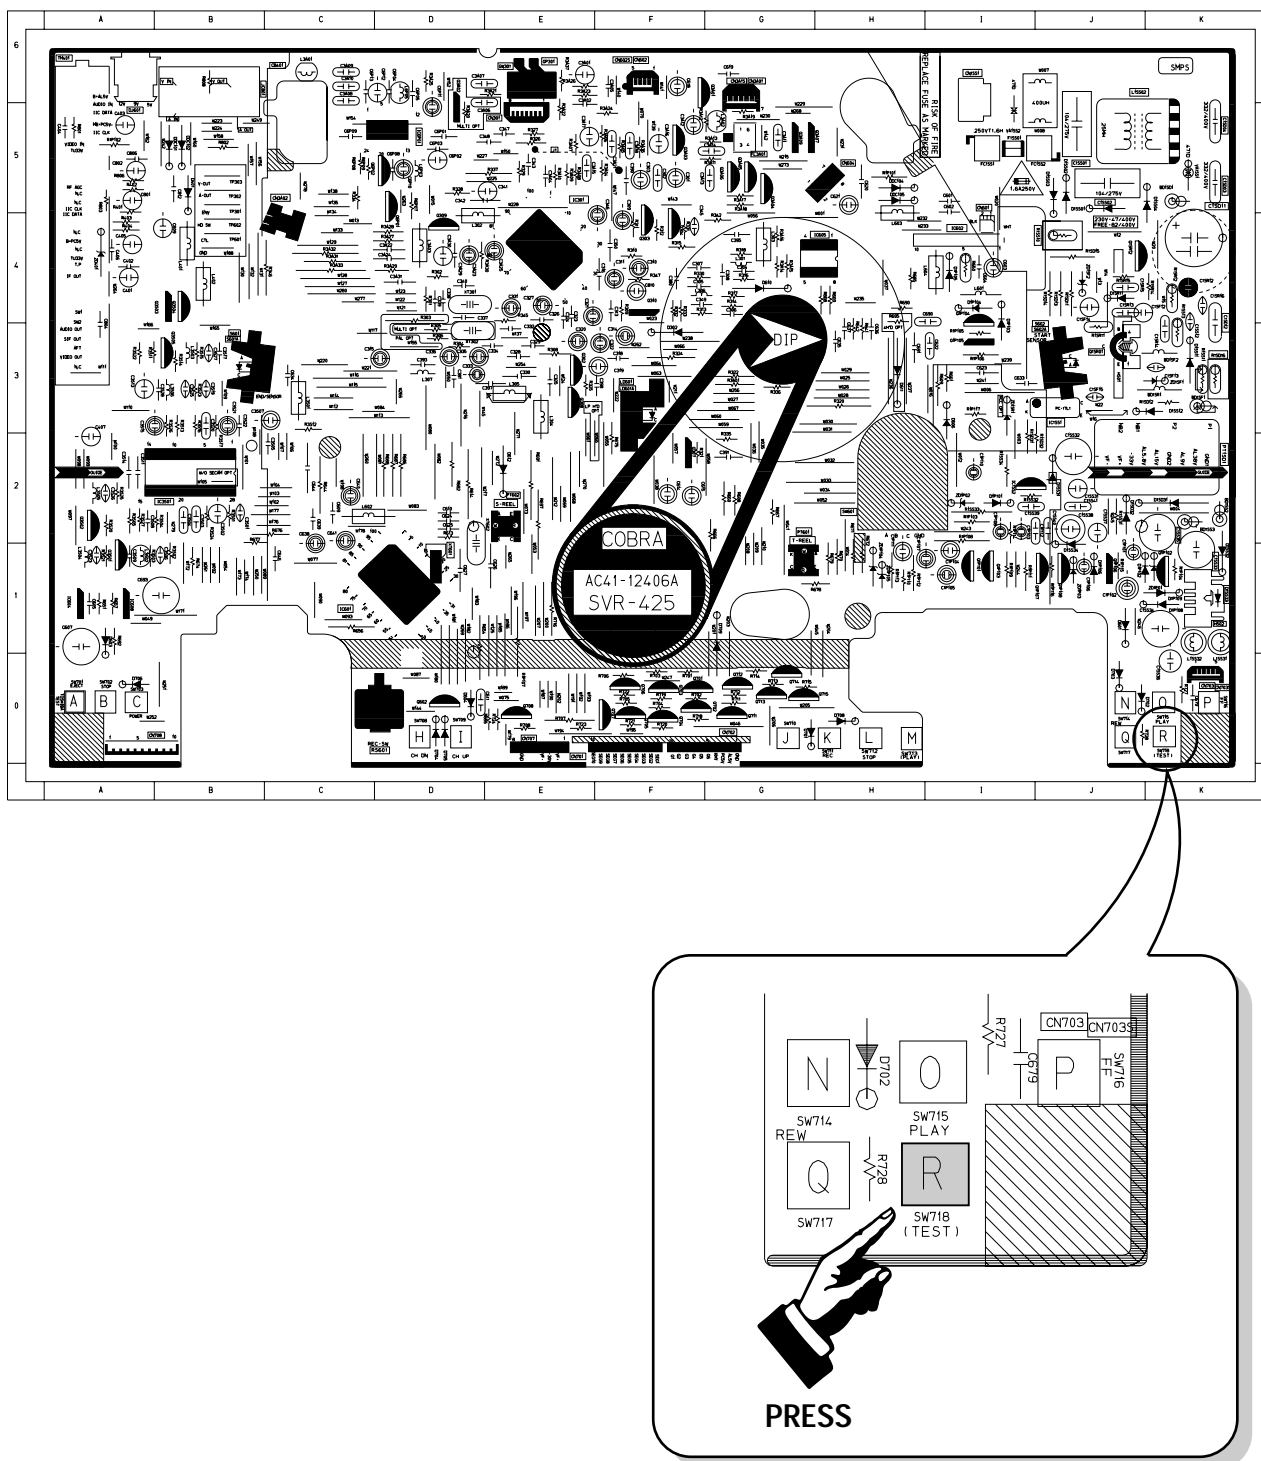

Fig. 2-2 Main PCB (Top View)
- 2) Press the “SW718 (TEST)” button on Main PCB to set the adjustment mode. (See Fig. 2-2)
- 2) Press the "SW718 (TEST)" button on Main PCB to set the adjustment mode. (See Fig. 2-2)
- 1) Press the "SW718 (TEST)" button on Main PCB to set the adjustment mode. (See Fig. 2-2)